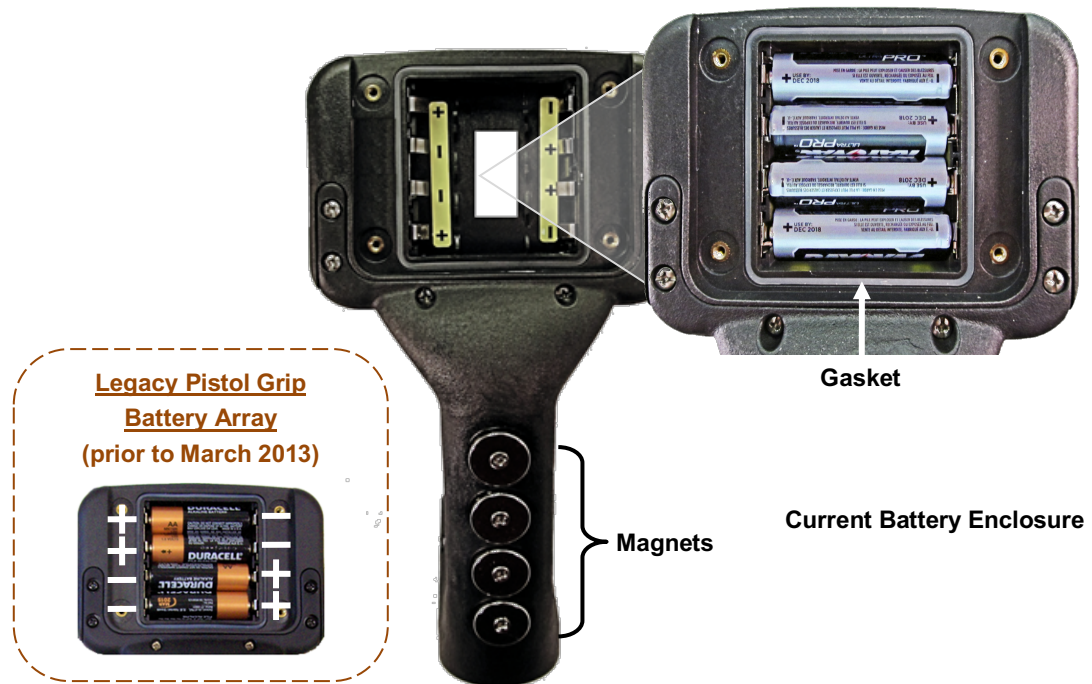

Figure 3. Smart Pistol Grip Battery Installation
2. Install (or replace with) four fresh size AA cell batteries. Observe proper polarity by positioning the batteries as shown in Figure 3.